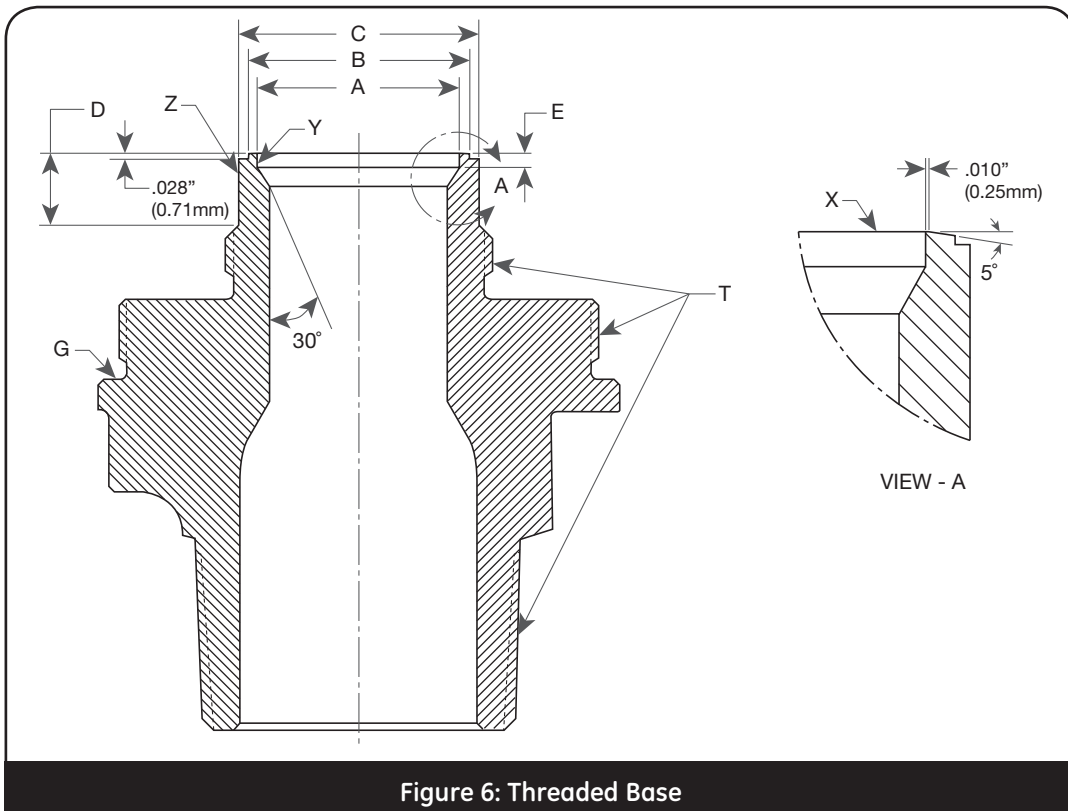

Figure 6: Threaded Base
- b. Take light cuts on the seat surface until all damage is removed. Reestablish the .028" (0.71 mm) and B dimension per Figure 6 and Table 2.
- Threads (T) are torn, galled or stripped.
- Gasket surface (G) is nicked or experiencing leakage.
- Exceeds other dimensions in Table 2 and Figure 6.